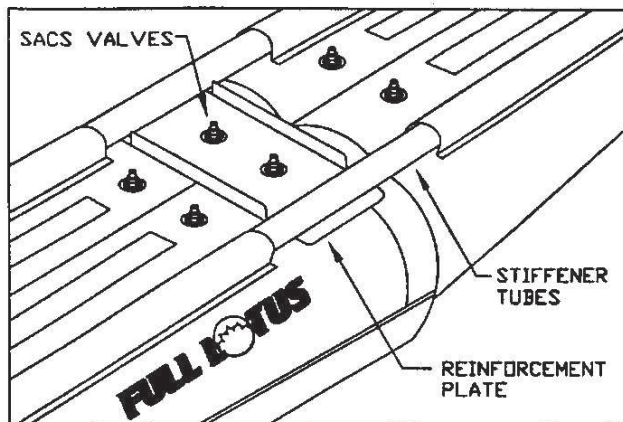

Fig. 1. Reinforcement plate assembly.
- 4) Undo the top nuts on the SACS bladder valves and place the reinforcement plate over the valves with one washer underneath it. Replace the top nuts and washers but do not tighten the nuts. The assembly should look like Fig. 1 The edges of the reinforcement plate will fit under the float stiffener tubes.
- 5) Slide the stiffener tubes into the pockets on the top of the float passing them above the SACS reinforcement plate you have just installed. The assembly should look like Fig. 1.
11) Undo the top nuts on the SACS bladder valves and place the reinforcement plate over the valves with one washer underneath it. Replace the top nuts and washers. Do not tighten the nuts. The assembly should look like Fig. 1. The edges of the reinforcement plate will fit under the float stiffener tubes.
12) Slide the stiffener tubes into the pockets on the top of the float passing them above the SACS reinforcement plate you have just installed. The assembly should look like Fig. 1.
11) Undo the top nuts on the SACS bladder valves and place the reinforcement plate over the valves with one washer underneath it. Replace the top nuts and washers. Do not tighten the nuts. The assembly should look like Fig. 1 The edges of the reinforcement plate will fit under the float stiffener tubes.